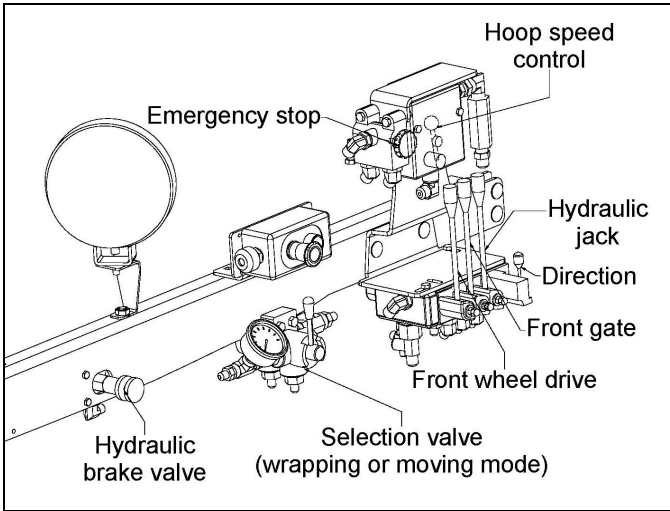
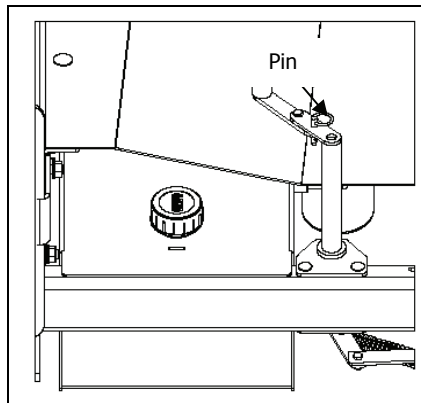
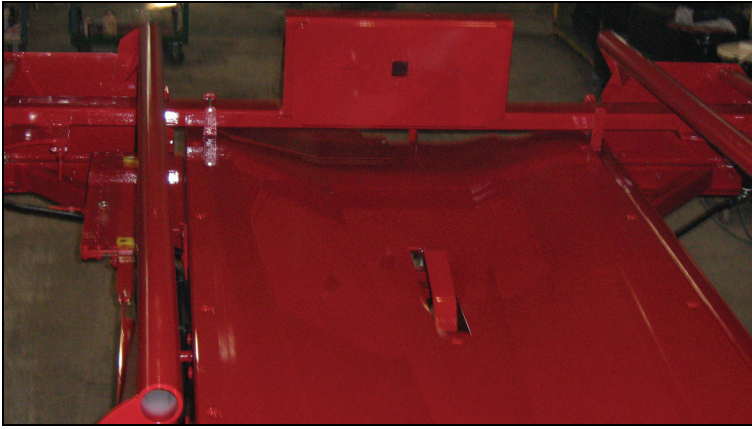

Figure 4.1 Controls
Figure 4.2 Engine throttle lever
Figure 6.6 Pusher trigger
Your bale wrapper can be moved very short distances using its own traction. Start the engine and use the hydraulic control levers (Figure 4.1). According to the options available on your bale wrapper, there are 4 ways to start the HONDA engine: manual ignition, electronic ignition with key, electronic ignition with remote control, and electronic ignition using the same remote steering.
When the pusher is in the rear position, it holds the engine throttle lever in "slow" position. To switch to moving mode, move the lever of the selection valve to "moving" (Figure 4.1). Place the throttle lever in "high speed" position by removing the ring pin from the throttle lever (Figure 4.2). Use the "front wheel drive" lever to control the movement of the bale wrapper and the "direction" lever to control its direction (Figure 4.1). Finally, once you are done moving your bale wrapper, do not forget to put the ring pin back in the throttle lever (Figure 4.2).
Place the wrapping speed control lever at zero (Figure 4.1) so that the hoop does not turn. Place an unwrapped bale on the bale wrapper platform without wrapping it, let the pusher return to the rear position and place a second bale on the platform (let the pusher complete a cycle). These first bales will compress the future continuous bale row and you will be able to wrap them later. Be sure to place these bales horizontally and in line with the pusher. Each time you place a bale on the pusher trigger (Figure 6.6) it will activate the pusher and move the bale forward.
Once these unwrapped bales have been pushed through, use the hydraulic lever to slowly lower the front of the machine to the ground. You should now place the red lever in wrapping position (Figure 4.1). (See moving or wrapping label.)
- 2- Pull the plastic film and pass it inside to attach it to the bracket (Figure 4.1).
- 4- Manually engage the hoop release valve (Figure 4.1).
At this moment, you should also gradually adjust the front wheel drive's hydraulic brake (Figure 4.1). This more or less blocks the front wheels so as to compress the continuous bale row and decrease as much as possible the air space between the bales. At the start of a continuous bale row, only moderate pressure should be applied to the brake so as not to make the continuous bale row slide on the ground and potentially damage the plastic film. As the continuous bale row becomes heavier, greater pressure must be applied to the hydraulic brake by tightening the brake lever. Depending on the weight of the bales and whether you are moving uphill or downhill, the pressure should increase to between 500 psi and 1000 psi on the pressure gauge.
You can activate the bale wrapper's direction lever so as to make the continuous bale row as straight as possible (Figure 4.1).